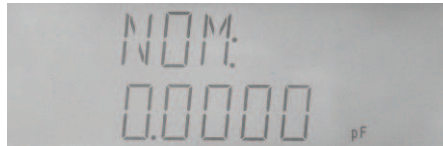

Figure 4-23 Nominal value setup
- Select "MODE" item through 【◀】 or 【▶】 key at limit setup page, as shown in Figure4-23. The current nominal value is displayed at the second line with unit corresponding with current primary parameter's type and multiple at unit column.